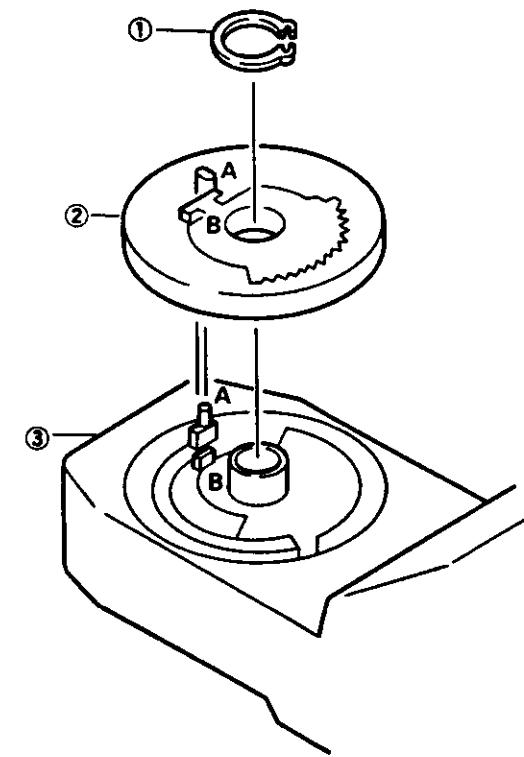

Fig. 44
16. ASA dial (see Fig. 44)
- 1) Mount the **FINDER COVER** ③ (sketch No. 25 on page 36) on the body.
- 2) The **ASA DIAL ASSY** ② in Fig. 44 is described upside-down.
- 3) Insert A and B portions of the ASA dial assy into A and B portions of the finder cover shown in Fig. 44.
- 4) Fix it with **G TYPE RING** ①.